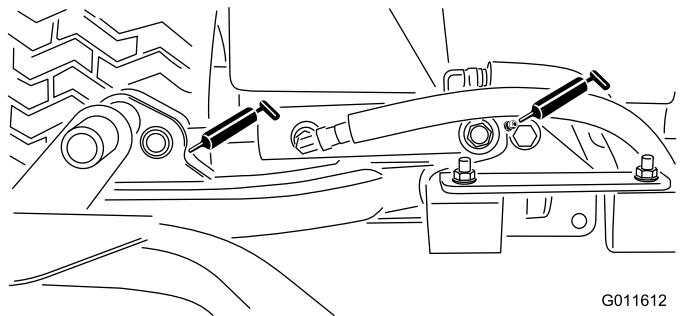

Figure 65
- Cutting unit lift-arm cylinders (2 each)—Figure 65
- Lift-arm pivots (1 each)—Figure 65